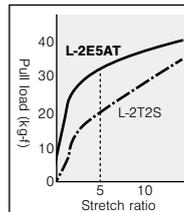

Fig. 1 Pull Load and Stretch Ratio for Cable
- The L-2E5AT contains the Tetoron cable filler reinforcement material. <Fig. 1>